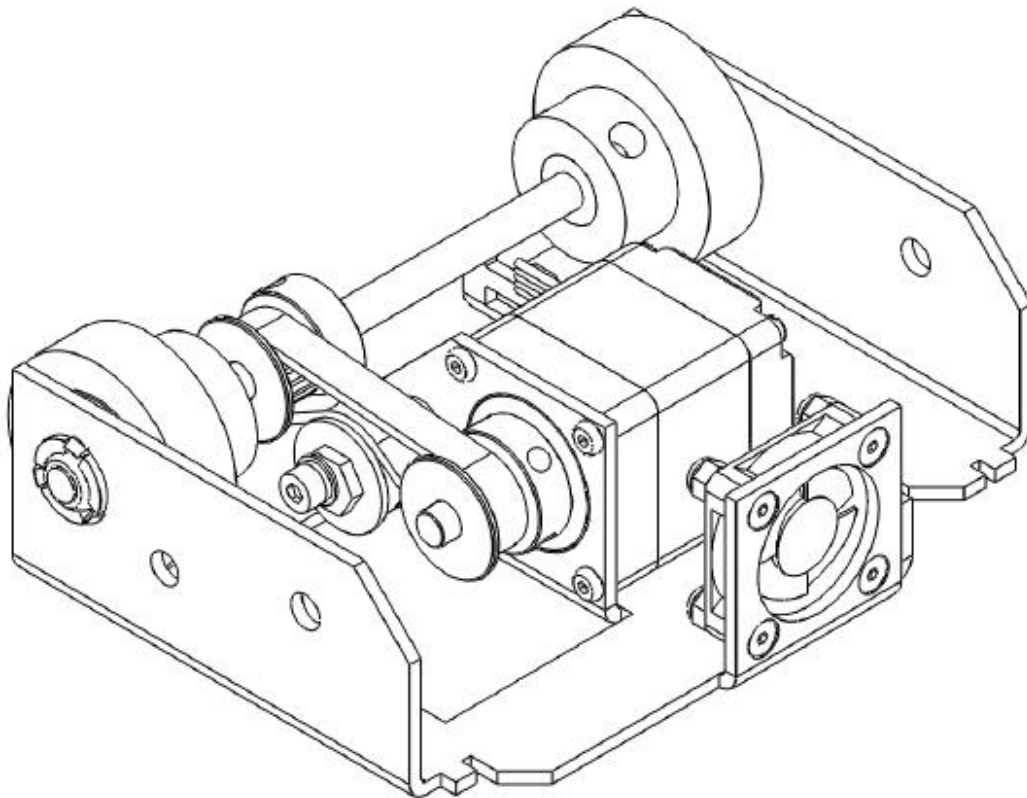

Figure J-13: Belt on Pulley and Eccentric
3. Loop a belt around the drive pulley attached to the motor and over the eccentric idler assembly (Figure J-13).